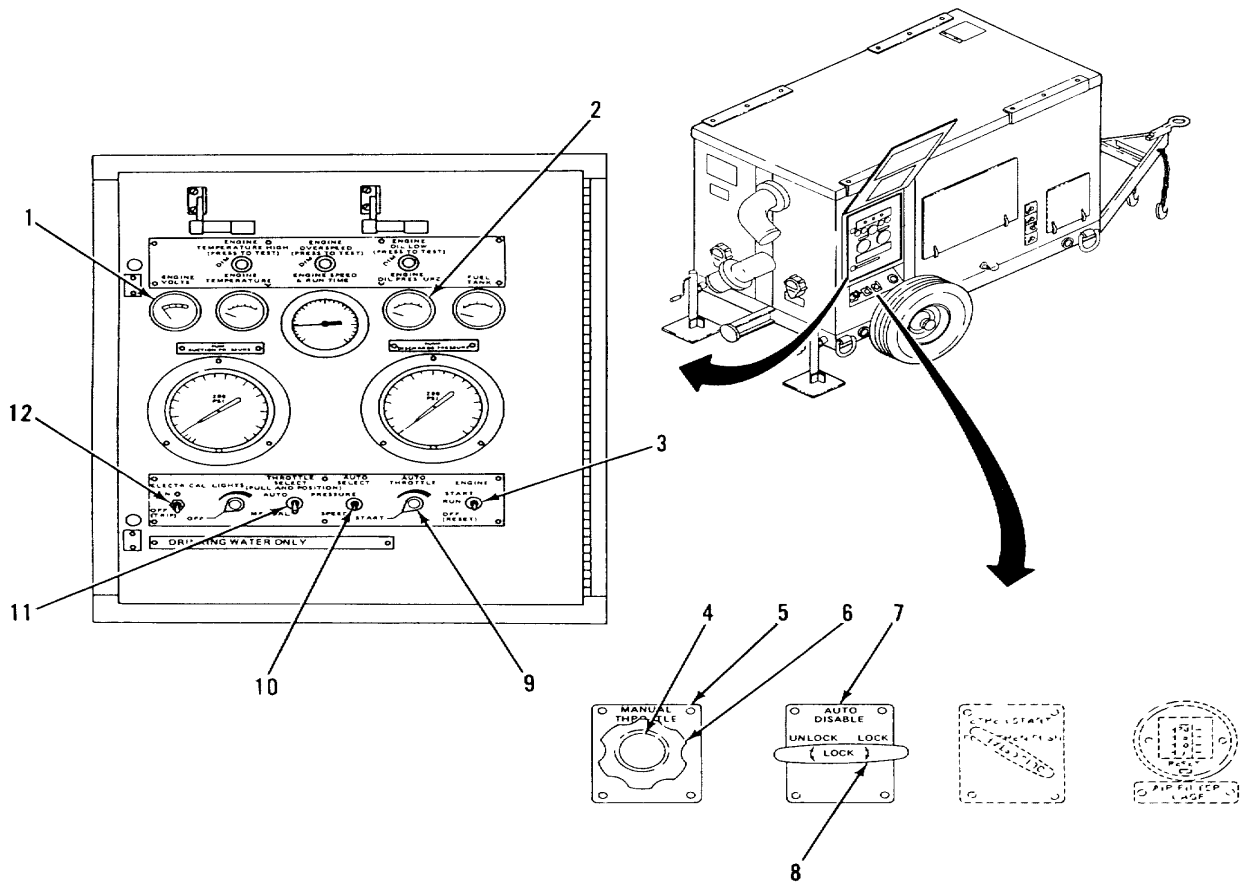

Figure 2-6. Automatic Mode Operation, Pump Pressure Control
- (2) Idle engine 2 to 3 minutes to allow for temperature balance.
- (3) Set ENGINE SWITCH (3) to OFF.
- (4) Set ELECTRICAL switch (10) to OFF.
- (5) Unlock and push AUTO DISABLE (7) full in and lock by turning handle (8).
- (6) Close pump suction and discharge valves
- (7) Close control panel door and air exhaust door.
- (8) Perform after (A) PMCS.
c. Automatic Mode Operation (Starting, Pump Pressure Control). Perform the following (Figure 2-6):
- (1) Depress red button (4) to unlock MANUALTHROTTLE (5) and turn MANUALTHROTTLE knob (6) to full run position. Then release red button (4) to lock.
- (2) Unlock and place AUTO DISABLE (7) fully in and lock by turning handle (8).
- (3) Set ELECTRICAL switch (12) to ON.
- (11) Check pump suction and discharge pressures Shutdown engine if pump does not prime within 3 minutes. Refer to troubleshooting.
d. Automatic Mode Operation (Shutdown, Pump Pressure Control). Perform the following (Figure 2-6)
- (1) Turn AUTO THROTTLE (9) to START position